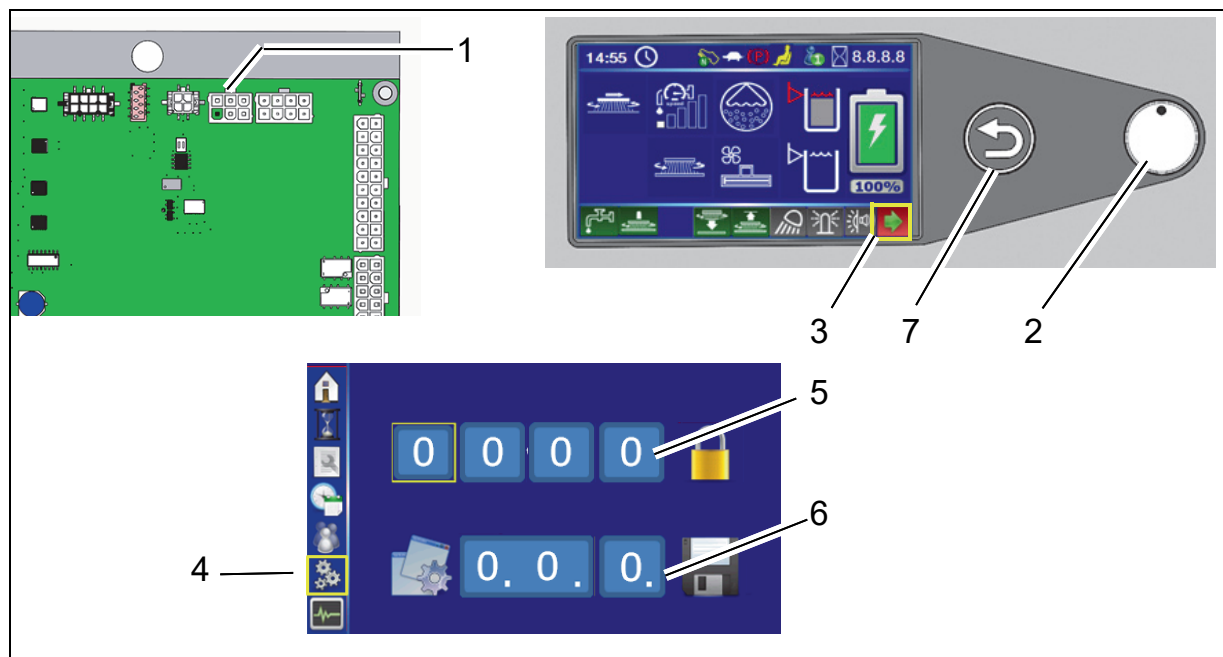

Fig. 8
2. Select the arrow soft key (Fig. 8/3) on the control panel using the turn-push knob (Fig. 8/2) and press to access the sub-menu.
3. Select the configuration menu in the sub-menu (Fig. 8/4).
4. Enter the 4-digit code in the configuration menu at the top (Fig. 8/5):
5. In the configuration menu at the bottom (Fig. 8/6), set the value of the option and save by pressing the turn-push knob. After confirming the last digit, OK? appears. Press the turn-push knob again to save the value. Saved value is displayed in green.
If the value is not to be saved, exit menu using the return key (Fig. 8/7).